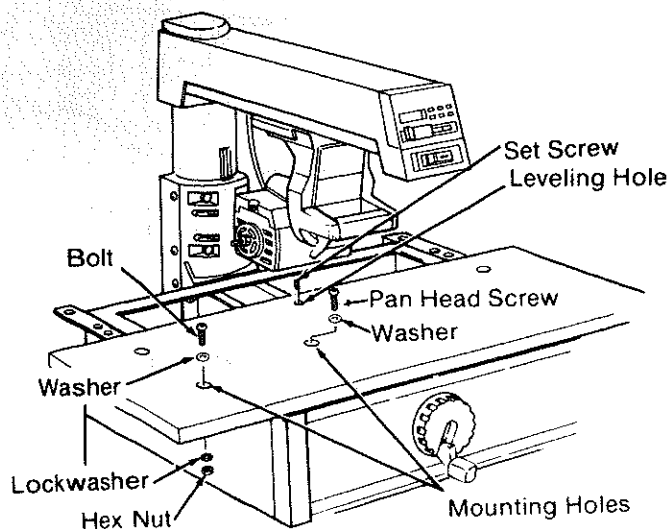

Fig. 45
4. Place the *front table* on the *saw* so that the *mounting holes* in the *table* line up with holes in the *table supports* and center channel of *saw*. (Figure 45)
5. Start the *cup point set screw* through the *leveling hole*. Do not tighten. (Figures 45 & 46)
6. Put a *washer* in each of the *mounting holes*. (Figures 45 & 47)
7. Start a *pan head machine screw* through the center *mounting hole*. Do not tighten. (Figures 45 & 48)
8. Install the *pan head bolts* through the *other four mounting holes*. Put a lockwasher and hex nut on each bolt and tighten using a Phillips screwdriver. (Figures 45 & 49)